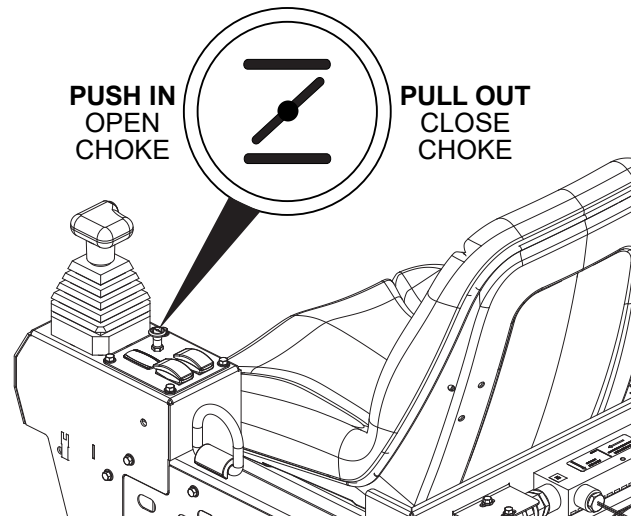

Figure 19. Choke Knob
2. If starting a cold engine, or starting the engine in cold weather, pull the choke knob (Figure 19) **outward** to the **CLOSED** position.
- Let the engine idle for 2–3 minutes. Once the engine has warmed, push the choke knob (Figure 19) **inward** to the **OPEN** position.